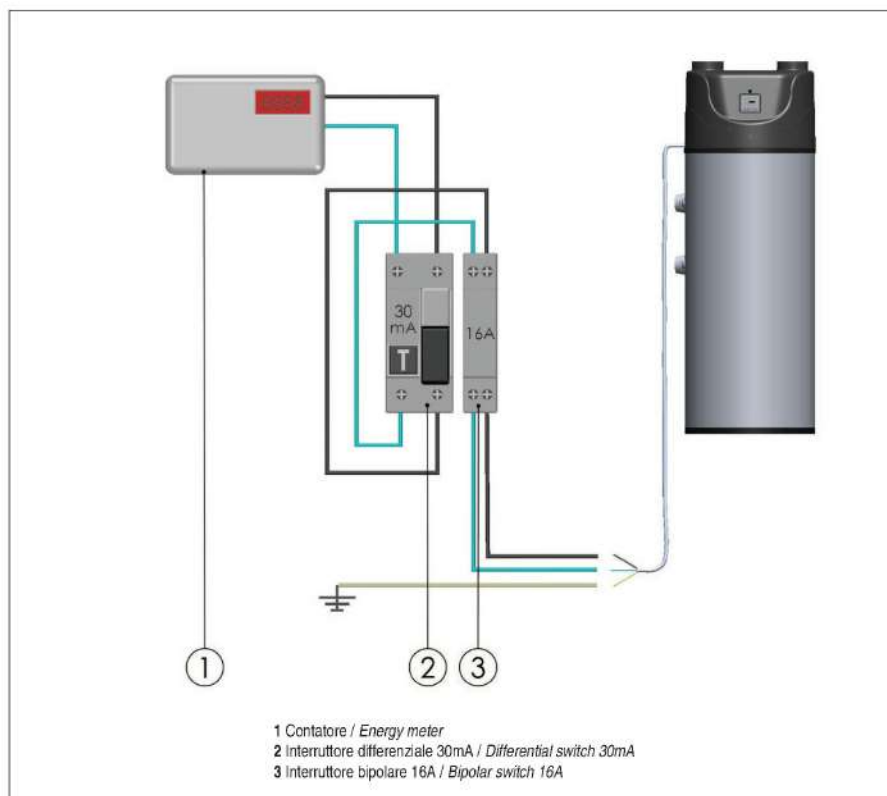

fig. 8
- To exclude it from the main power supply, a bipolar switch 16A in compliance with current CEI-EN and a residual-current circuit breaker of 30mA must be used (see figure 8).